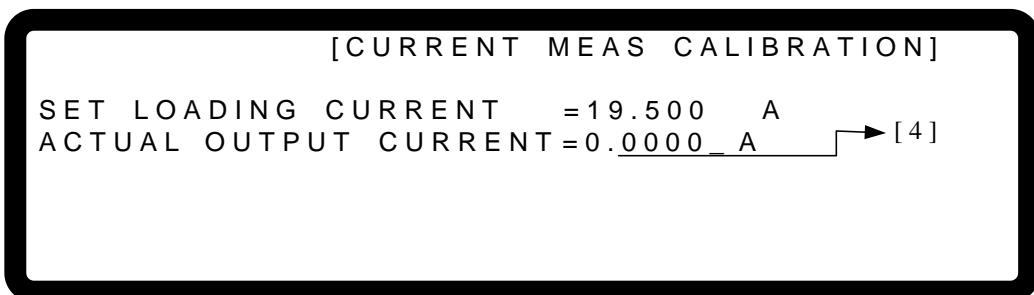

Figure 3-115
12. Press “” to perform the 19.5A calibration. The cursor will stop at position [4] as shown in Figure 3-115 for setting the loading current of the Electronic LOAD to 19.500A. Enter the current read by the Current Shunt (DVM) and press “” to confirm and wait for it to end. Use 7.5A and 19.5A for calibration; the system will calculate the calibration factor for the high current range.